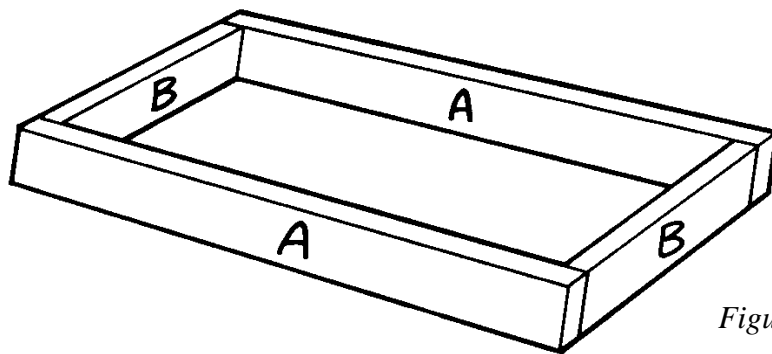

Figure 1
1. The inner frame of the butler's chest, which is covered with $\frac{3}{4}$ "-thick plywood, consists of two rectangular inner support assemblies connected to each other by two sides and a back. Start by cutting four long inner supports (A) from 2 x 4 pine, each measuring 34-1/2" long.
2. Cut four short inner supports (B) from 2 x 4 pine, each measuring 12-1/2" long.
3. Place two long inner supports (A) on a level surface, parallel to each other, on edge, and 12-1/2" apart. Fit two short inner supports (B) between the two long inner supports (A), as shown in *Figure 1*. Glue the supports together and insert two 2-1/2" screws through the long inner supports (A) into the ends of the short inner supports (B) at each joint. You now have one inner support assembly.
4. Repeat Step 3, using the remaining two short inner supports (B) and two long inner supports (A) to construct a second inner support assembly.